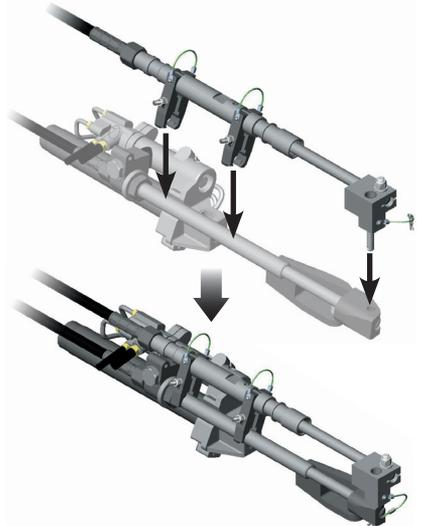

Fig B29 - Fitting connection kit to steering cylinder
- i) Position the connection kit assembly above the steering cylinder as shown (Fig B29). Hold the two clamp assemblies open so they will fit over the manual steering cable guide tube, at the same time ensure that both clamps remain engaged in the GREEN color coded slots of the secondary cable guide tube.